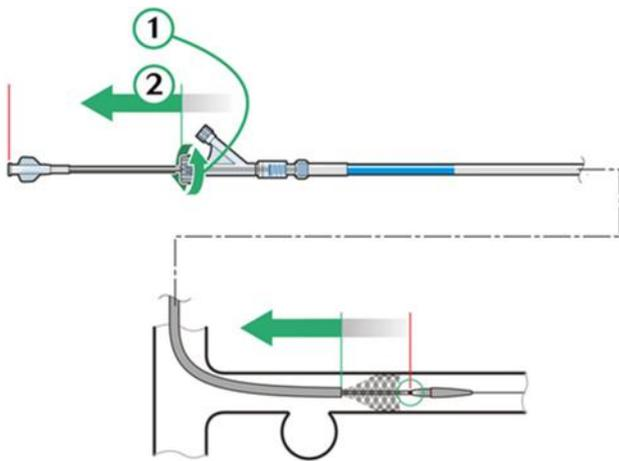

Figure 5. Start Deployment
3. To deploy the MFM[®], unscrew the Y hemostasis valve (Figure 5, Step 1) and slowly withdraw the delivery system to the target lesion site by gently and progressively pulling the sheath towards the fixed position of the pusher (Figure 5, Step 2). The MFM[®] begins to release.